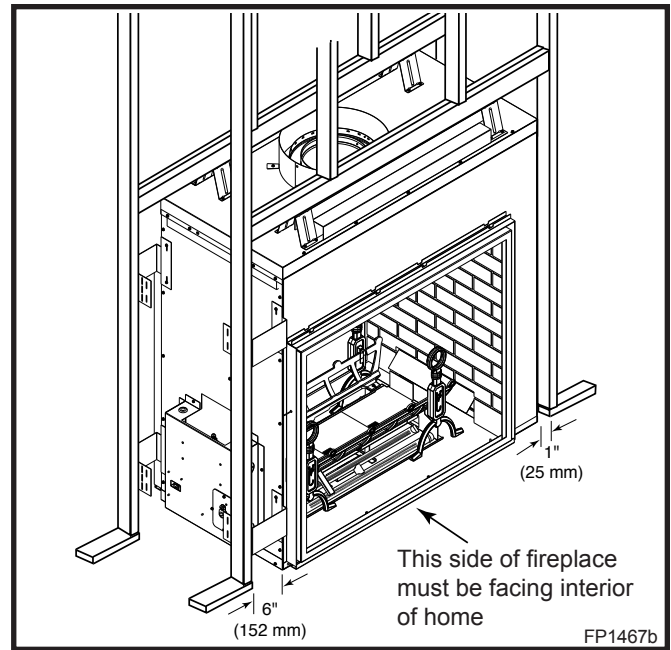

Fig. 5 Fireplace framing.
3. Frame the fireplace with a header across the top of the standoff. (Fig. 5) It is very important to allow for the finished wall face along with marble, tiles or any other noncombustible face finish material desired when setting the depth of the framing.